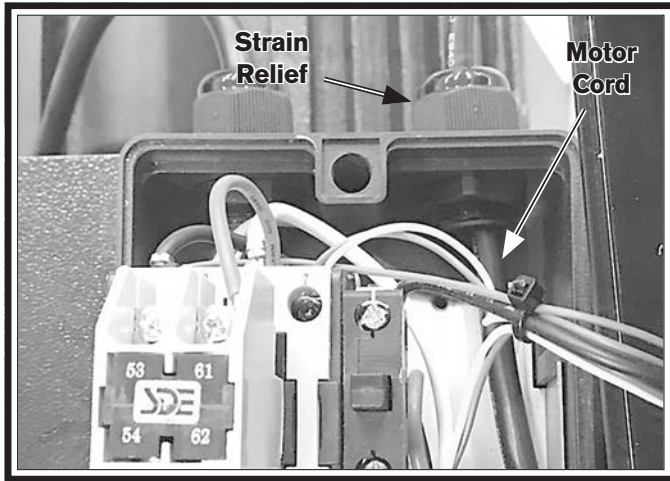

Figure 76. Filter brush motor cord routed into switch box.
14. Push filter brush motor power cord through cord routing cover and through strain relief at top of switch box (see **Figure 76**).